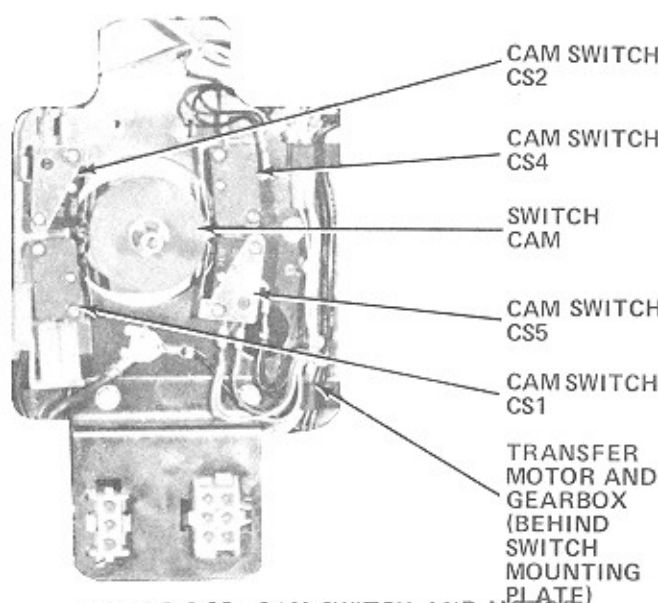

FIGURE 2-23. CAM SWITCH AND MOTOR ASSEMBLY COMPONENTS
**Cam Switch and Motor Assembly.** (See figure 2-23) The cam switch and motor assembly consists of the transfer motor and gear box, a switch cam, and four cam switches. A nylon cam operates the cam switches. The function of each switch is described in Table 2-5.